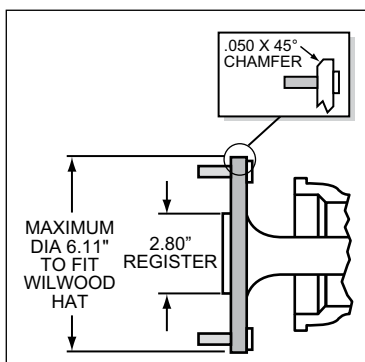

Figure 5. Axle Flange Maximum Dimension
- Axle center register diameter is 2.80", Figure 5. This kit uses Wilwood's removable center register adapters. Rotors can either be centered on the axle register, i.e. *register-centric* or centered on the wheel studs, i.e. *stud-centric*. Due to variations in wheel stud final diameters, *register-centric* centering can be a more accurate method of centering the rotor to the axle. Wilwood offers various diameter adapters for purchase in addition to the ones supplied in this kit, see Table 1.
- Maximum axle flange diameter must be no larger than 6.11" w/.050" x 45° chamfer (see Figure 5).